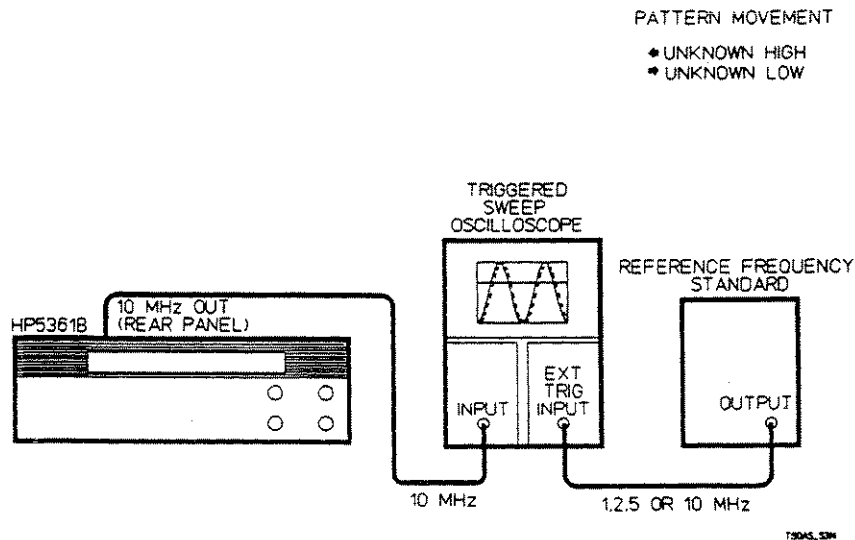

Figure 2-4. Oscillator Adjustment Setup
1. Connect a house standard (1, 2, 5, or 10 MHz reference frequency) to the EXTERNAL TRIG INPUT of an oscilloscope and set the main triggering to EXTERNAL. Connect the 5361B rear panel 10 MHz OUT to the Channel A input of the oscilloscope. (See Figure 2-4.)
The following procedure describes the adjustment of the Oven Oscillator Timebase (Option 001) and the High Stability Timebase (Option 010). To perform the adjustment, refer to Figure 2-4 and proceed as follows:
1. Connect a house standard (1, 2, 5, or 10 MHz reference frequency) to the EXTERNAL SYNC INPUT of an oscilloscope and set the oscilloscope to EXTERNAL SYNC. Connect the HP 5361B rear panel 10 MHZ OUT to the Channel A input of the oscilloscope. (See *Figure 2-4*.)